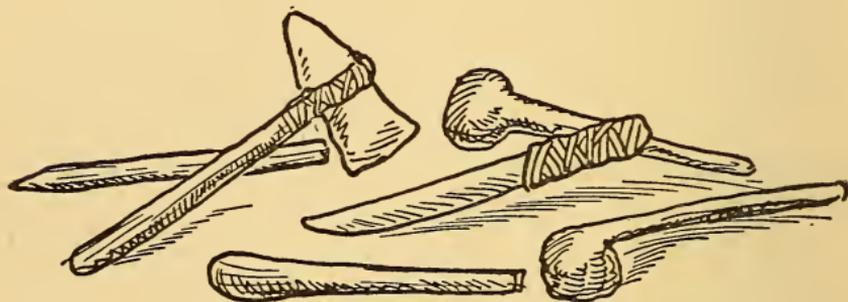

FIG. 36. SOME ANCIENT COPPER TOOLS
*Its Uses.*—The ancients made tools of it, see Fig. 36, and as it stands next to silver as a conductor of electricity we moderns largely use it for all kinds of electrical purposes. It is also used for making stills and cooking utensils, and large amounts of it are employed in making alloys. Compounds made with it and other elements are used for copper plating, dyeing, etc.